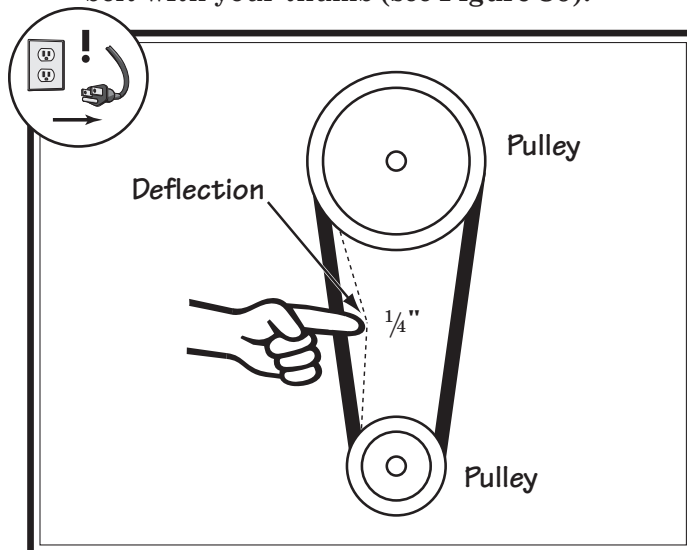

Figure 80. Checking V-belt tension.
5. Check V-belt tension by pressing center of belt with your thumb (see Figure 80).